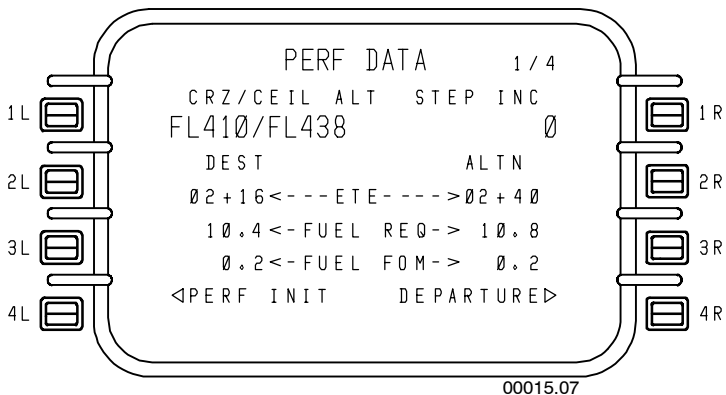

Figure 5-21
- **PERF DATA 1/4** - Figure 5-21 displays the overall fuel and time calculations along with the cruise altitude. If an alternate flight plan has been entered, data for both the destination and the alternate destination is presented.
The fuel FOM is an estimate of the accuracy of the fuel required calculation expressed in thousands of pounds. In Figure 5-21, the FUEL FOM is 0.2 meaning fuel required numbers have an estimated accuracy within ± 200 pounds.